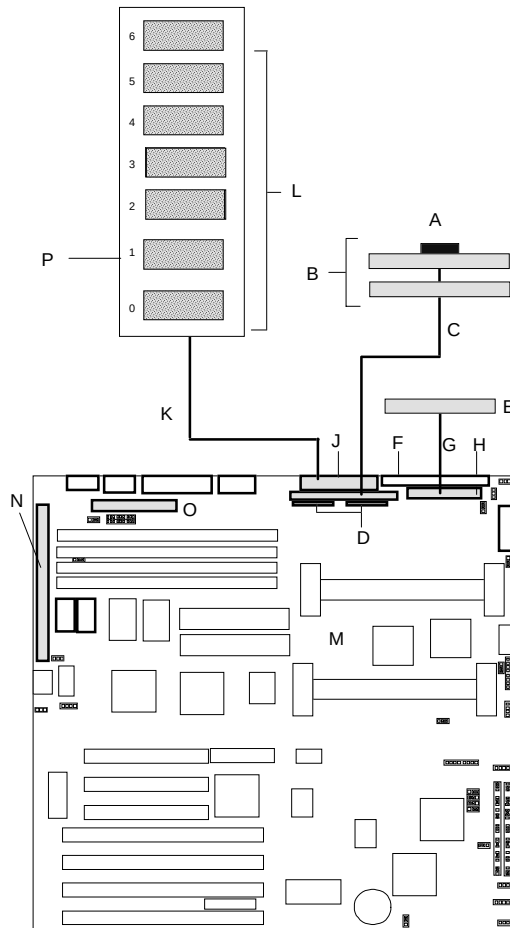

Figure A-1 Standard System Cable Configuration
Referring to Figure A-1, a 68-pin wide SCSI interface cable (K) is connected to the SCSI connector (J) in the upper edge of the system board. This cable connects to the front of the hard disk drive's SCSI backplane (V).